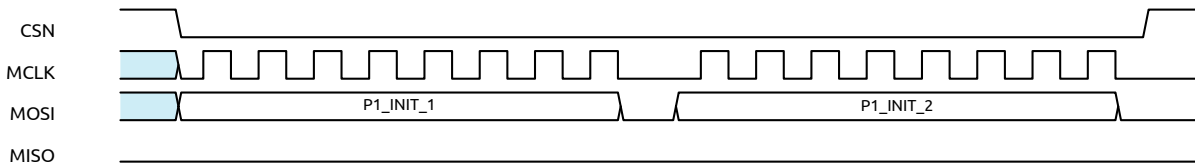

Figure 17: Typical SPI initialization of a peripheral using SPI mode 0
**Peripheral initialization** For SPI peripherals, the SRAM data is the data to be shifted out to the peripheral. The number of bytes to be shifted during the initialization phase is defined in the NCMDP\_P[1-4] field in the NCMDP[1-4] register. Typical SPI initialization is demonstrated in Figure 17.